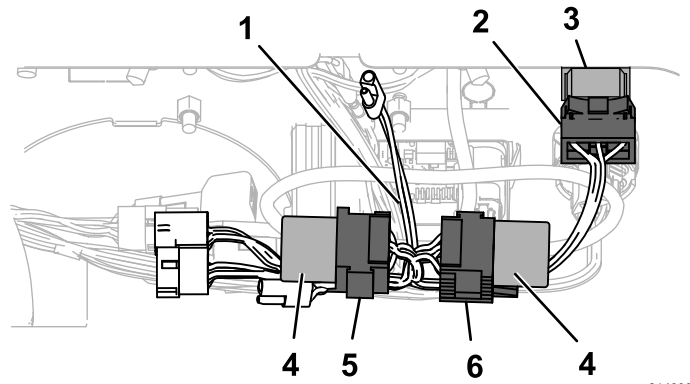

Figure 4
4. Connect the switch connector (P06) from the wire harness to the switch (Figure 4).
5. Install the 2 relays onto the relay connectors (P04 and P05) as shown in Figure 4.